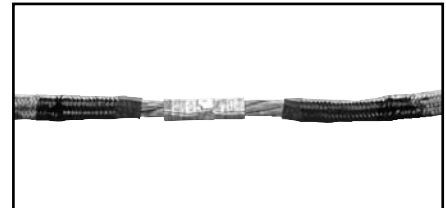

Figure 12
6. Reconnect the conductors, being careful not to damage the individual wires. (Figure 12)